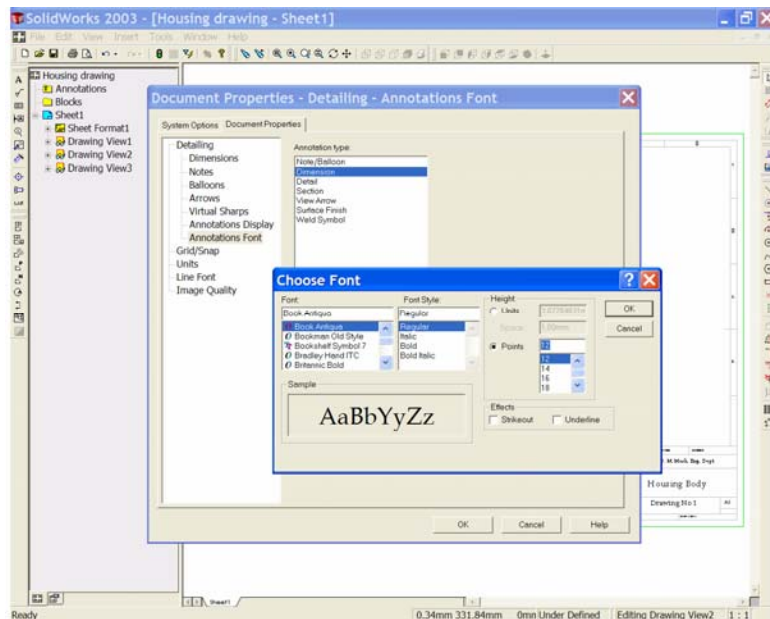

Figure 40
35. Choose **'Annotations Font'** under **'Detailing'** and from the annotations type window select **'Dimension'**. From the dialog box select **'Book Antigua'** and set the **Height to 12 points**. Select **OK** to close the box. See Figure 40.